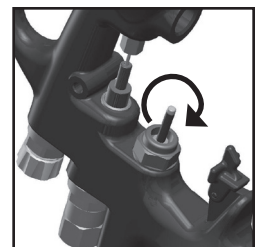

Fig. 36
11. Tighten air valve assembly using fingers first, then tighten with 14 mm wrench. Torque from 24-30 N-m [18 to 22 ft-lbs]. (See fig 36)